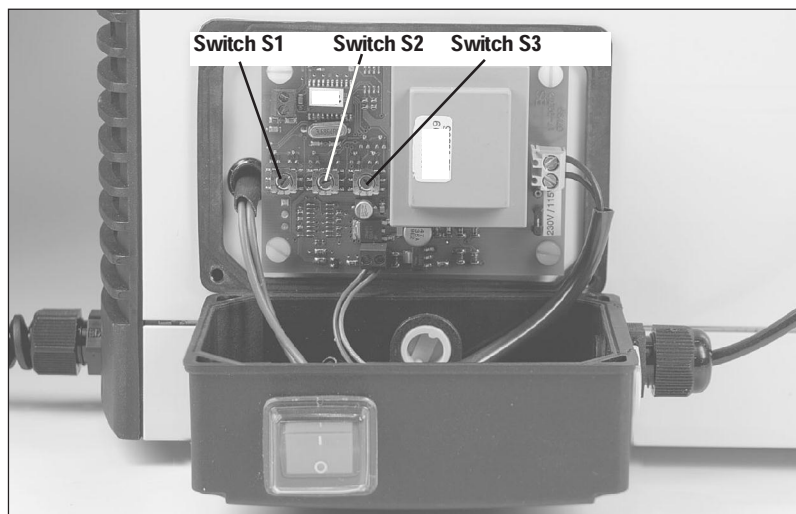

Fig. 5:
- 3 At the control box, loosen the collar nut of the cable inlet. Use a slotted screwdriver to release the four screws, then fold the cover forwards and lay it down (see fig. 5).
- 4 Set the desired values at switches S1, S2, and S3 (see fig. 5). See Table 1 for an explanation of the switches and for the values which can be set.